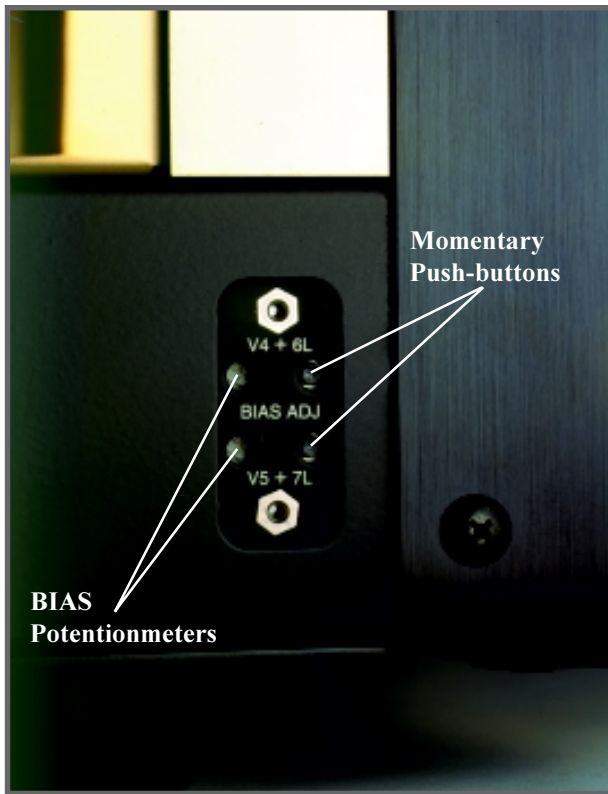

Figure16
3. Facing the Left Side of the MC2000 press and hold in the momentary push-button for V4+6 L, and at the same time carefully adjust the BIAS Potentiometer V4+6 L for a MC2000 Left Meter indication centered between .13 and 1.3. Refer to figures 16 and 18.